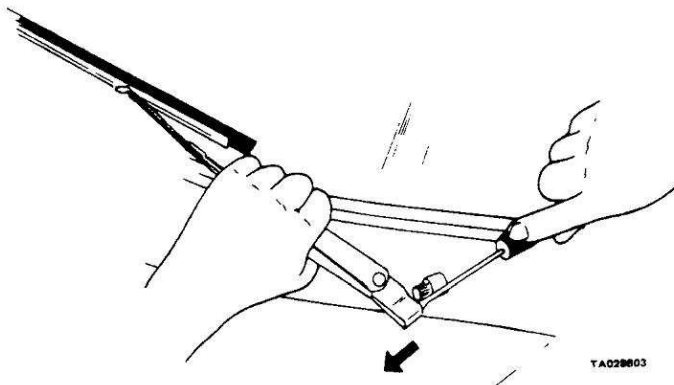

Figure 2-54. Wiper Arm Removal.
(1) Turn the wiper switch ON and position the blades in a convenient place by turning the ignition switch ON and OFF.
(2) Depress the release lever on the center bridge. Remove the blade from the wiper arm.
(3) Depress the release button on the end of the center bridge and withdraw the rubber wiping element from the end bridges.
(4) Replace the wiping element. Make sure that all four of the bridge claws are engaged and properly positioned on the filler assembly.
(5) Replace the blade assembly, checking each release point for positive locking.
b. Removing and Replacing the Wiper Arms. To remove wiper arms, use a screwdriver as shown in figure 2-54. Install new wiper arms by snapping them into place.